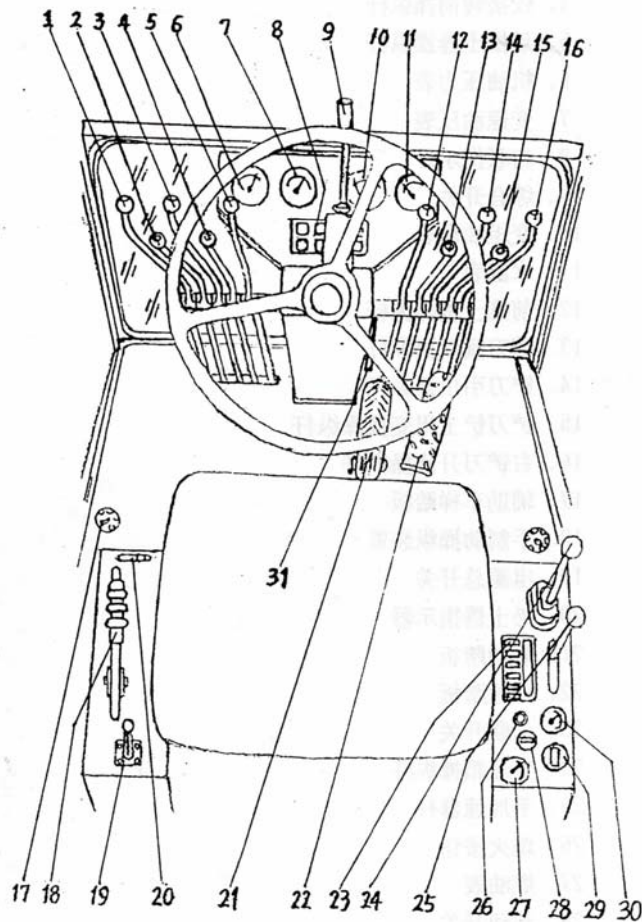

Fig. 11
Push the handle (Fig. 11/19) of power switch downwards the mains power will be switched on.
2) Starting switch (See Fig.11/28)
1) Oil temperature gauge at torque converter outlet (Fig.11/10)
2) Ammeter (Fig. 11/30)
3) Water temperature gauge (Fig. 11/11)
4) Timer (Fig. 11/29)
5) Transmission control pressure gauge (Fig. 11/7)
6) Fuel gauge (Fig.11/27)
7) Engine oil pressure gauge (Fig.11/6)
7.3.6 Accelerating pedal (Fig. 11/21)
7.3.7 Brake pedal (Fig. 11/22)
- a) Pull up the lifting lever (Fig.11/31) on the right side of moving console slowly;